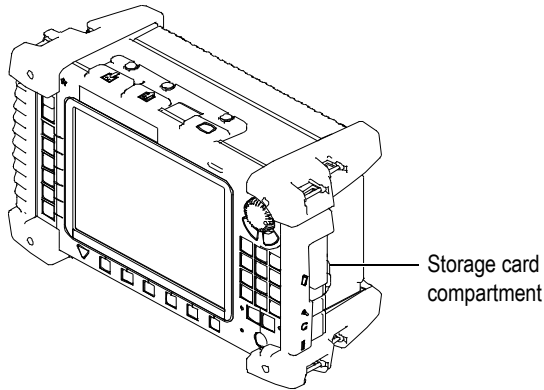

Figure 4-22 Removing the storage card from its compartment
2. On the right side of the OmniScan MX instrument, open the storage card compartment and remove the storage card (see Figure 4-22 on page 98).